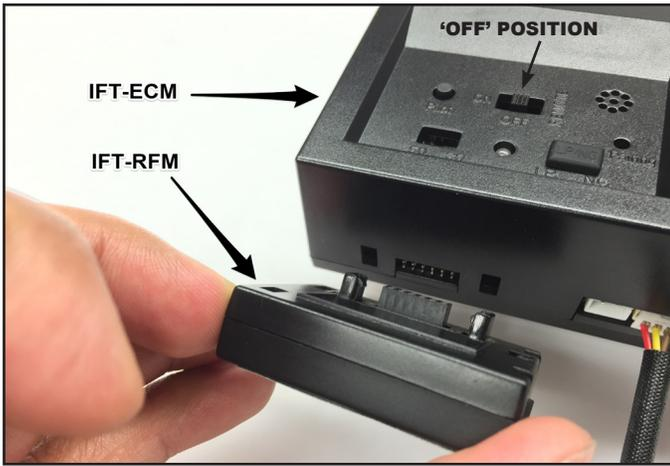

Figure 1 Connect IFT-RFM to IFT-ECM
2. Locate the IntelliFire™ Touch electronic control module (IFT-ECM) in the control cavity of the appliance and move the three-position switch to the OFF position. See Figure 1.
3. Connect the IFT-RFM to the IFT-ECM by aligning the pins and tabs and pushing the IFT-RFM into the IFT-ECM until both tabs snap into position. Ensure the two components are fastened securely to one another. See Figure 1.